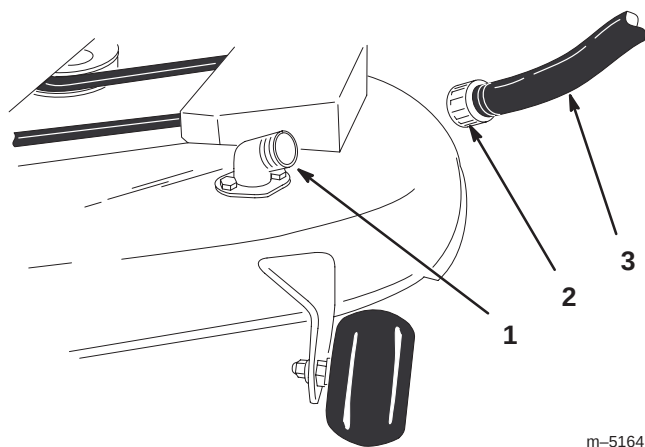

Figure 46
2. Attach the hose coupling to the end of the mower washout fitting, and turn the water on high (Fig. 46).